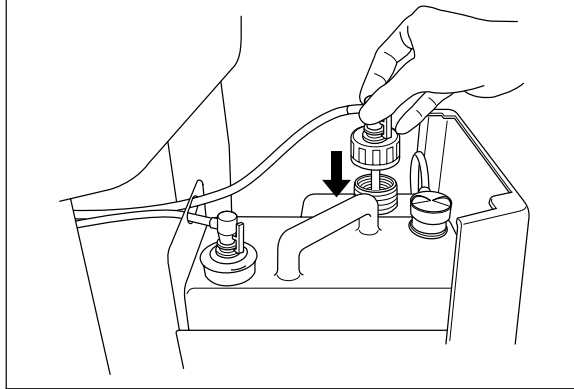

Figure 7.85
15. Put the cap in the container filled with the sterilized water (see Figure 7.85).
17. Attach the cap to the alcohol tank and close the detergent/alcohol drawer (see Figure 7.85).